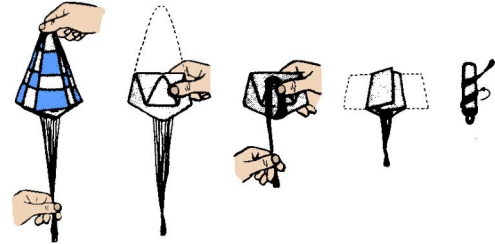

Figure 13
- **Step 35** Attach the snap link of the two parachutes to the screw eye of the payload module just before flight. Do not store parachutes inside a model rocket when not flying. Fold both parachutes using the illustrations in Fig. 13 as a guide.